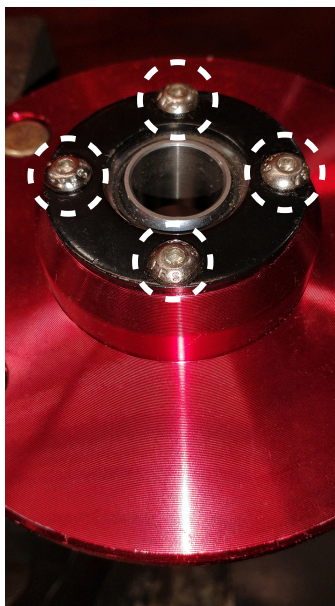

Fig. 7
7. Flip the upper mount over, remove (4) M5 x 0.8 8mm screws using an M3 hex key and the pillowball retainer plate (Figs. 7, 8 & 9)